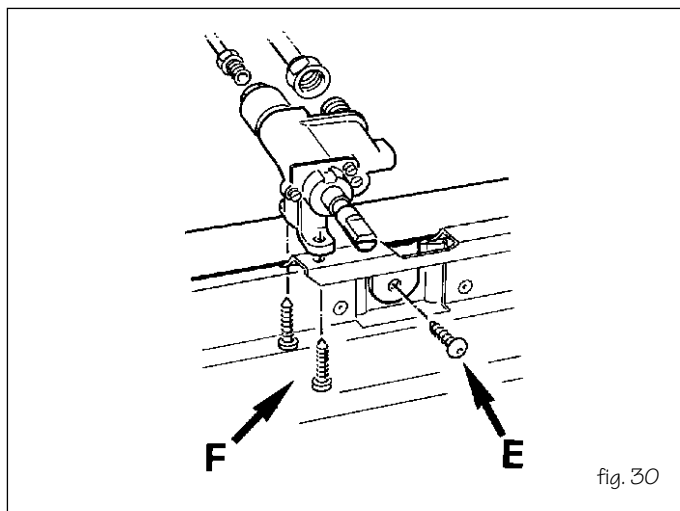

fig. 30
- Lift the mounting support and unscrew screws "E" (Fig. 30)